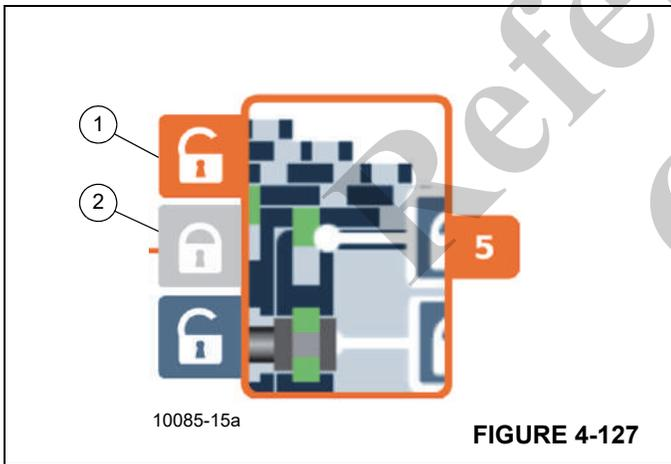

FIGURE 4-127
To lock:	Select symbol (2) Figure 4-127 and confirm – telescopic section locked